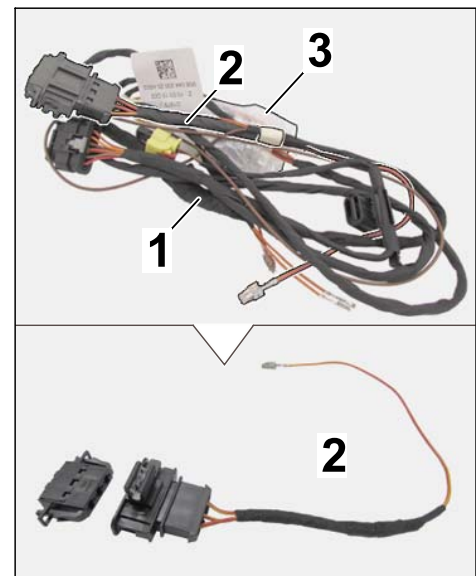

Figure 17
- 2.1 Release secured adapter cable with plug connection (3-pin) and bag of small parts from electric wire harness for engine noise control unit/pulse sender (⇒ *Figure 17*).